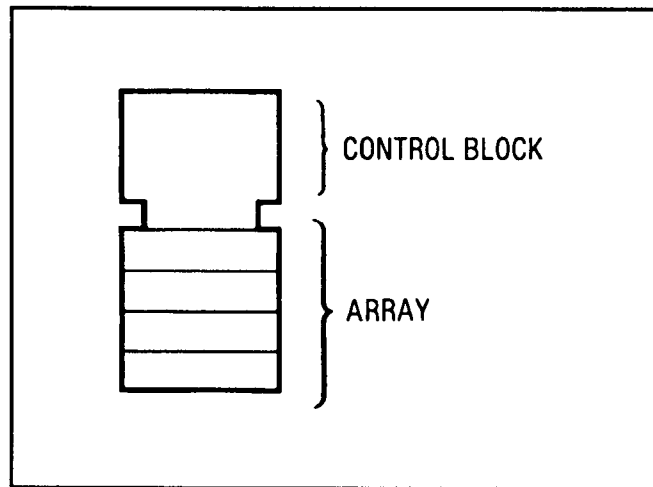
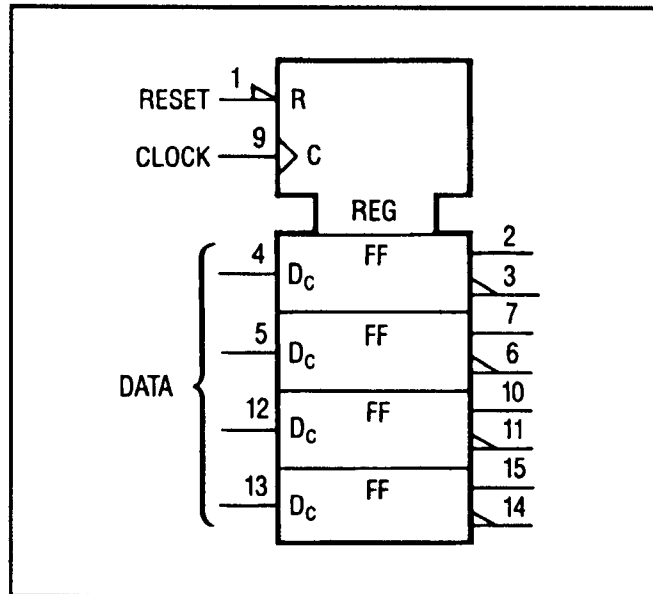
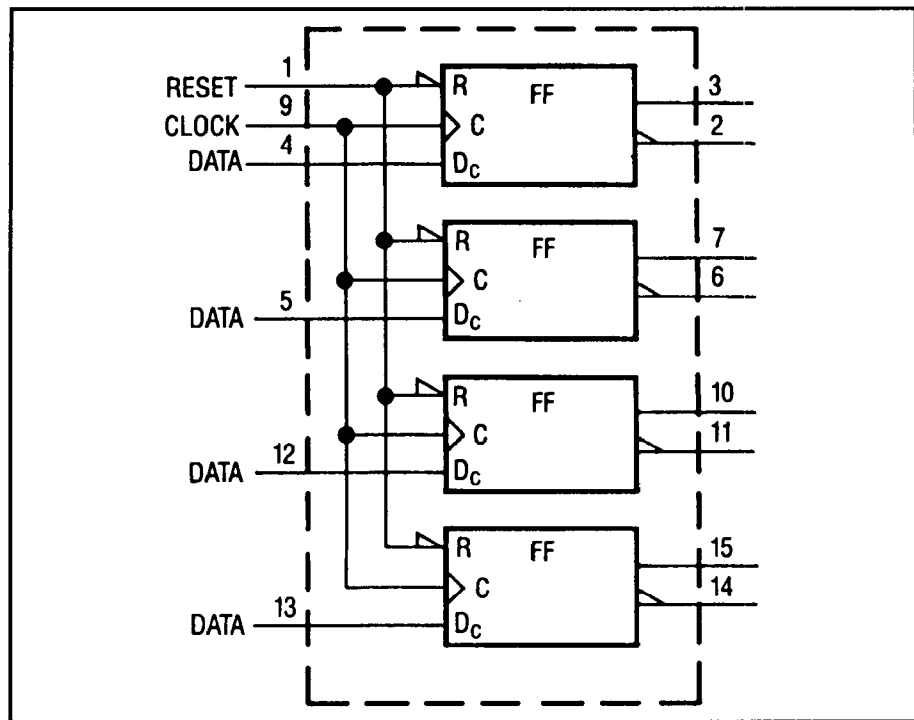

Figure 8-7. Common Control Block
Figure 8-8. Quad D-Type Latch (Combined)
Figure 8-9. Quad D-Type Latch (Individual)
**Dependency Notation.** Dependency notation simplifies symbols for complex integrated circuit elements by defining the relationship between inputs and outputs without actually showing all the elements and connections involved (see figures 8-8 through 8-10). The following examples use the letter A for address, C for control, G for AND, V for OR, and F for free dependencies. The dependent input or output is labeled with a number that is either prefixed (e.g., 1X) or subscripted (e.g., X1). They both mean the same thing. Note that many times a controlled line may already be labeled with a number that indicates input or output weighting (for example, in a coder). In this case, the controlling or gating input will be labeled with a letter.
**Common Control Block.** The control block is used in conjunction with an array of related symbols in order to group common logic lines. Figure 8-7 shows how the control block is usually represented. Figure 8-8 shows a quad D-type flip-flop with reset. This can be redrawn as shown in figure 8-9. Note that the representation shown in figure 8-9 can be used when the flip-flops are functionally scattered around the schematic (i.e., not used as a quad unit).